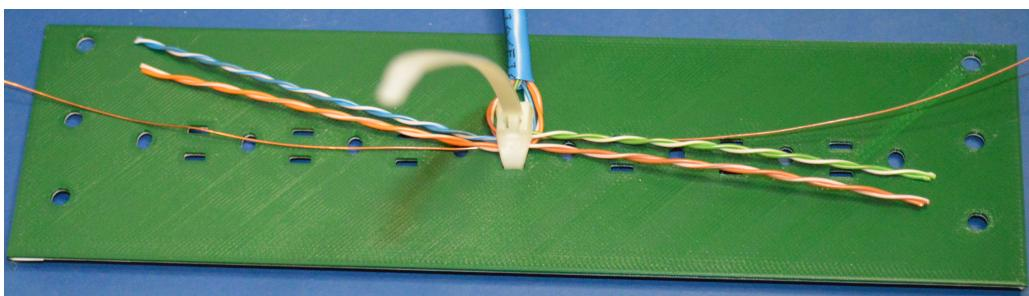

Figure 2.9: Attach the Cable to the Panel
- First using a cable tie, attach the cable to the panel. This helps to keep the cable from moving around while the LEDs are soldered. There is also a bare copper wire used as a ground/return wire for the LEDs. See Figure 2.9.